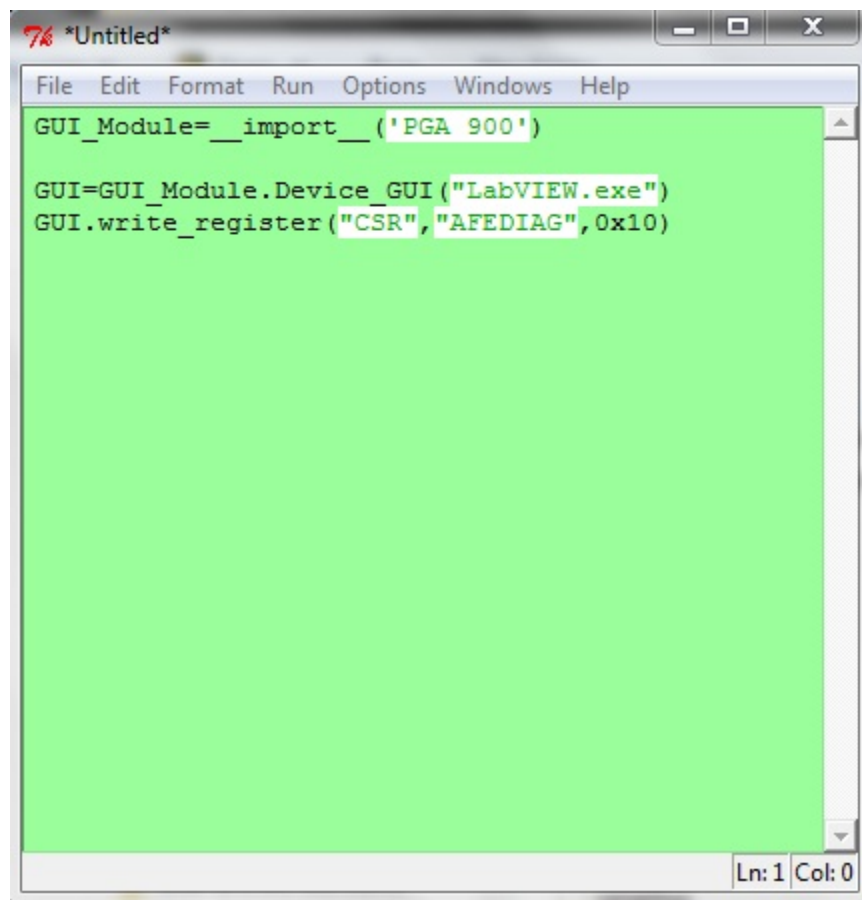

Figure 2-40. Macro Recording
- Go to Low Level Page of PGA900, select AFEDIAG register and write 10 to “Data” control and click **Write Register**. The action is recorded as shown in Figure 2-40.